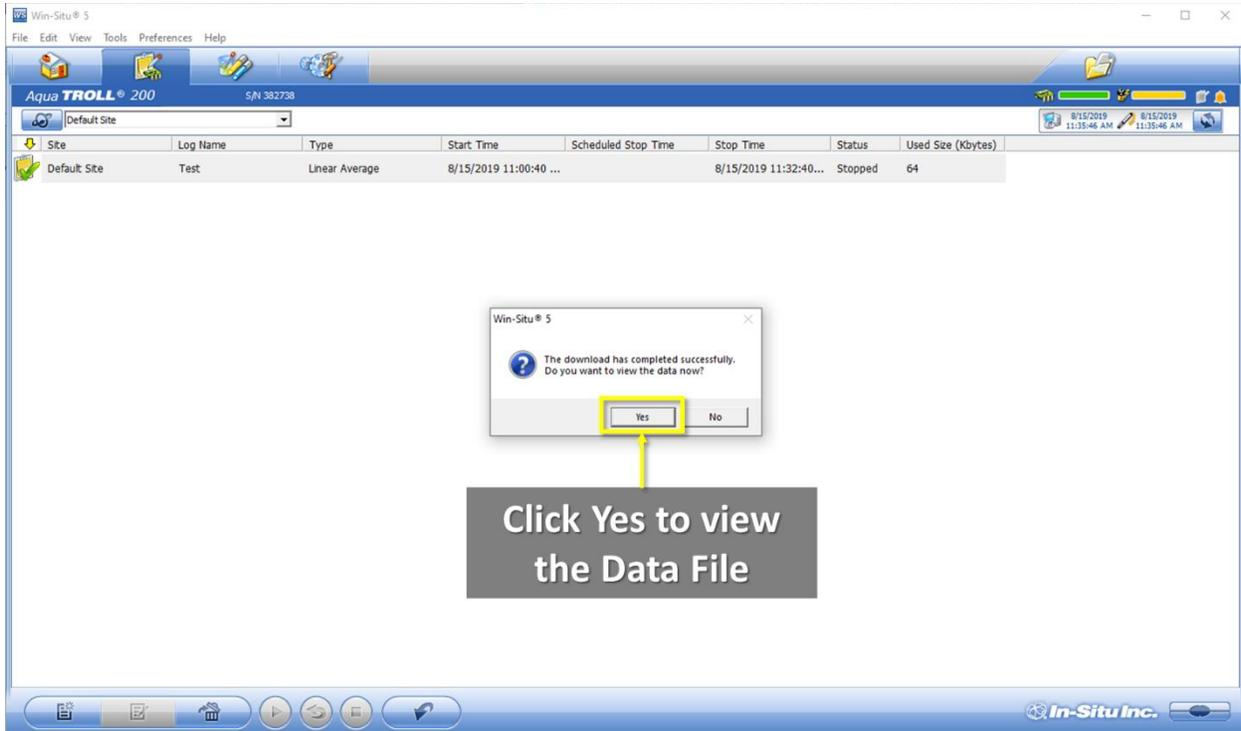

Figure 28. Click "Yes" to View the Data
- Another pop-up window appears to ask if you want to view the data. Click **“Yes”** to view the data file (**Figure 28**).